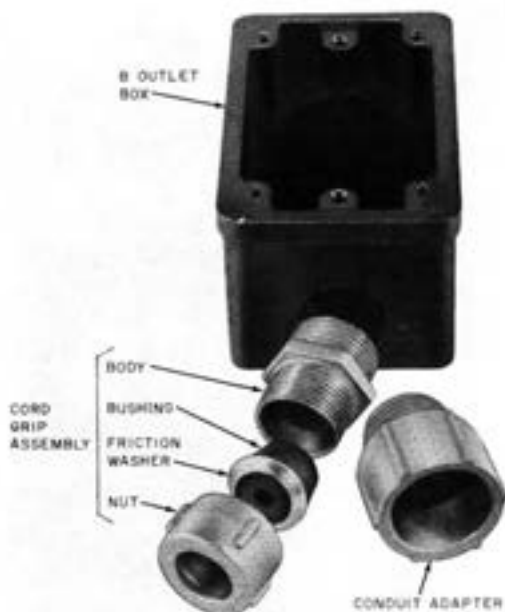

Fig. 3—B Outlet Box
2.04 The B outlet box (Fig. 3) is a molded box intended for mounting the B weatherproof male or female jack. It has a threaded knockout entrance at each end for use with an aluminum cord grip assembly or polyvinyl chloride (PVC) conduit adapter. The cord grip assembly and conduit adapter come with the outlet box.